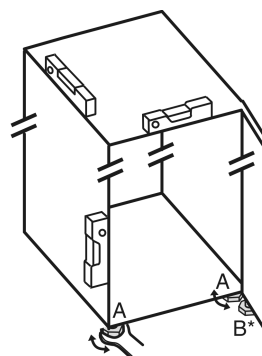

Fig. 6
- ▶ Unscrew the adjustable feet Fig. 6 (A) using the enclosed open-end spanner and a spirit level until the appliance is firmly aligned and level.
► Unscrew the adjustable foot *Fig. 6 (B)* on the swap bearing block with the enclosed open-end spanner until it rests on the floor.
► Turn the adjustable foot *Fig. 6 (B)* 90° further.